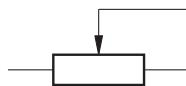

Fig. 2
- (ii) The circuit symbol for the volume control is shown in Fig. 2.